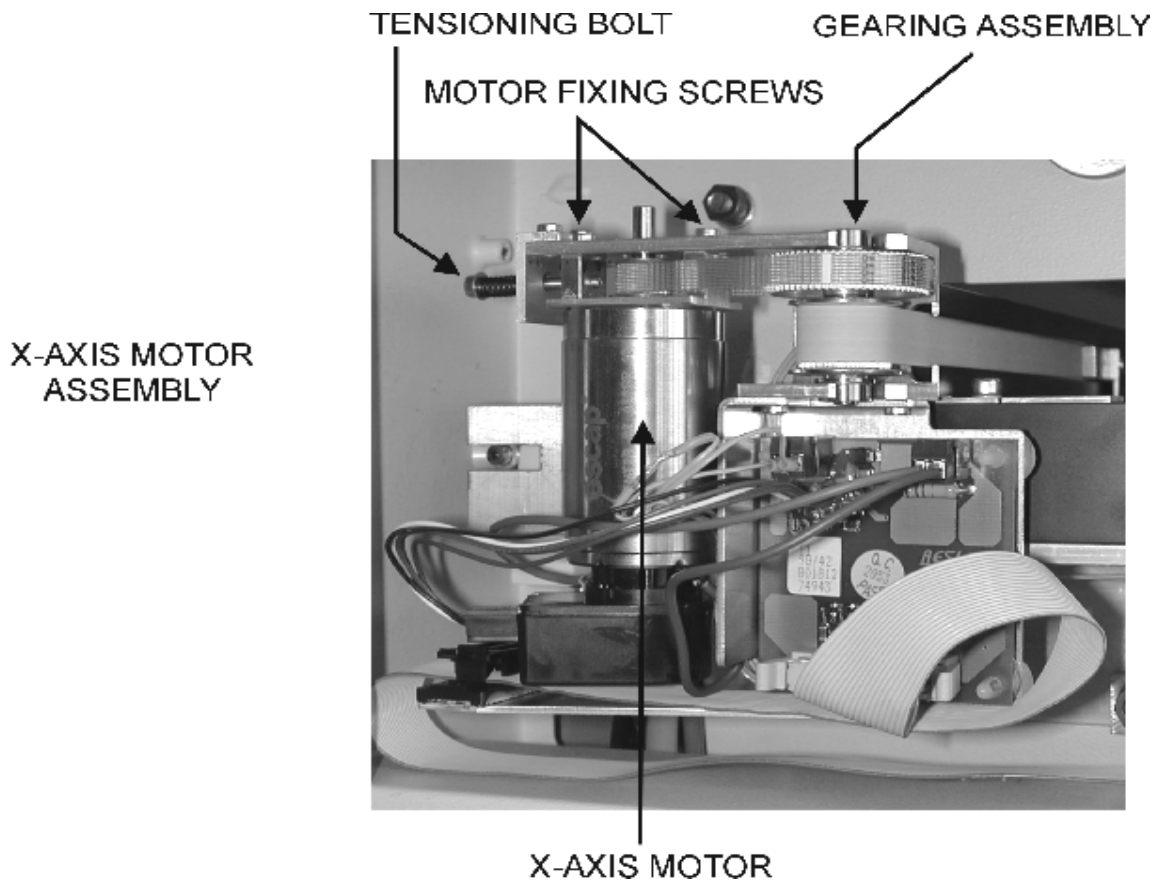

Fig. 3
7. Mark the position of the two MOTOR FIXING SCREWS and TENSIONING BOLT on the left side of x-axis. (Fig. 3)
8. Remove the two MOTOR FIXING SCREWS, TENSIONING BOLT and X-AXIS MOTOR. (Fig. 3).